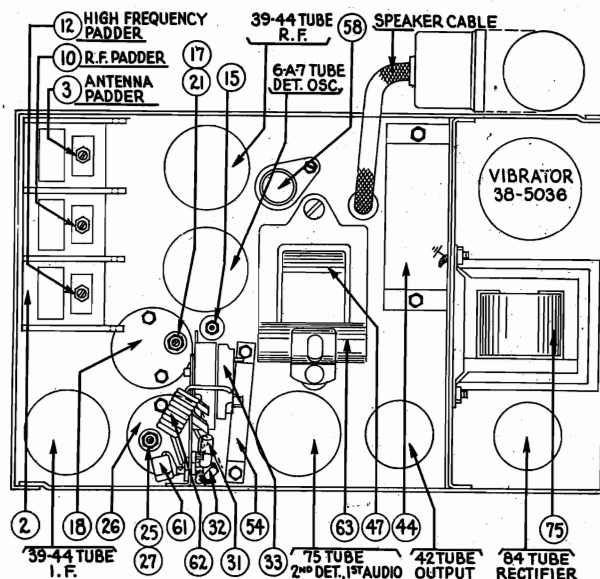

FIG. 2
Remove the speaker lid from the Receiver and disconnect the antenna lead from the Receiver. Remove the grid cap from the 6A7 tube (for location see Fig. 2).
Set up the signal generator and adjust it to exactly 260 K. C. Connect the generator lead to the grid cap of the 6A7 tube. (See Fig. 2.) The output meter must be connected by means of an adapter to the small prong of the speaker plug and to the chassis.
The padders ⑩ and ③ must be adjusted first. These padders should be adjusted to peak. (Figs. 2 and 3.) First adjust the screw, then the nut.
The padders ⑫ and ⑨ must be adjusted next. (Figs. 2 and 3.) Turn the adjusting screw ⑫ all the way in. A metal screwdriver can be used for this. Then, with generator attenuator set so there is approximately half-scale reading, adjust the nut ⑨ with a fibre wrench for the maximum reading on the output meter.
There are four holes in line, one in each of the sections of the tuning condenser housing. (See Fig. 2.) Place a nail of the size that fits snugly through the holes and then turn the condenser plates out of mesh until they strike against the nail.